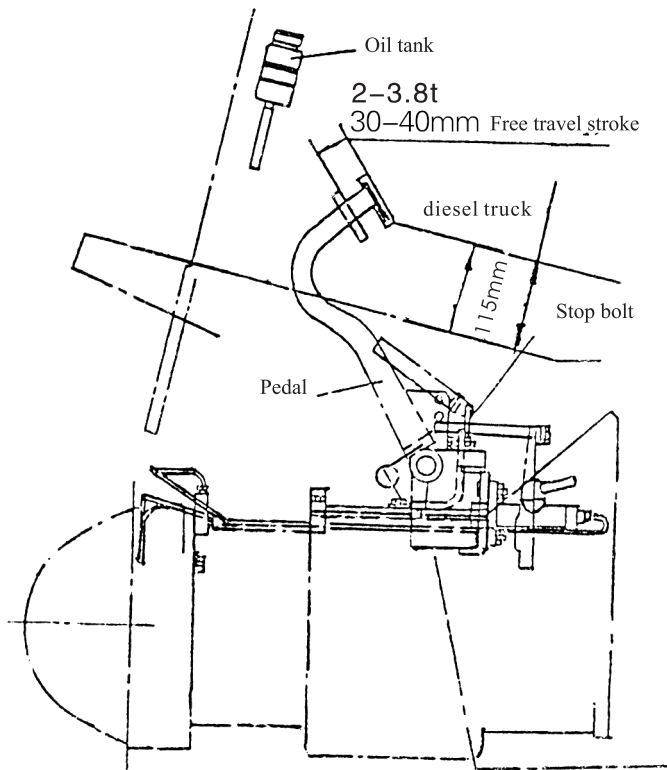

Fig.8-7 Brake pedal adjustment (truck with clutch)
8.6 Brake Pedal Adjustment (Truck with clutch) (See Fig.8-7)